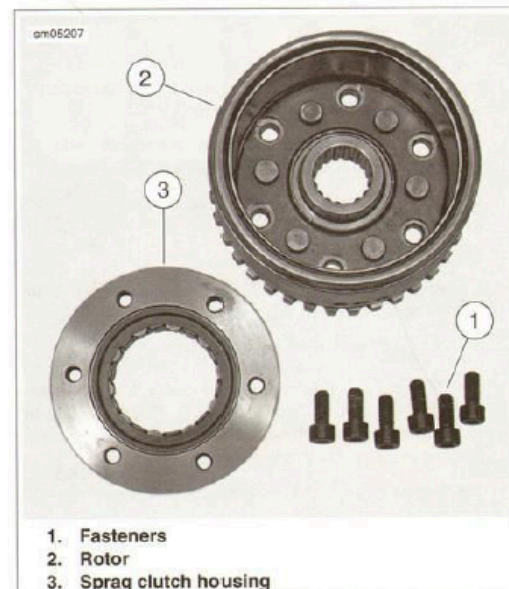

Figure 7-36. Alternator Rotor/Flywheel
2. See Figure 7-36. Install the six hex key fasteners (1) through the rotor (2) into the sprag clutch housing (3).